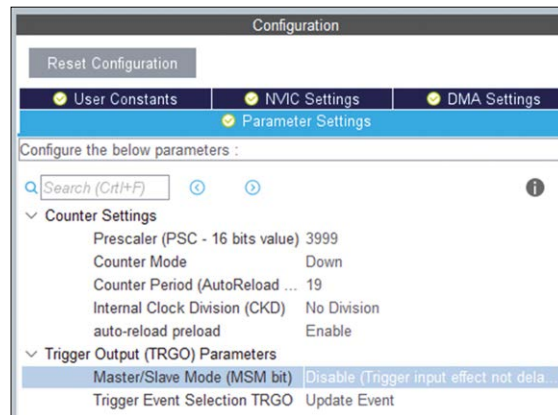

Figure 9.15: Parameter settings.
- In **Parameter Settings** select for 1ms interrupts. i.e. set the **Prescaler** to **3999**, **Counter Mode** to **Down**, **Counter Period** to **19**, and **Trigger Event Selection TRGO** to **Update Event** (Figure 9.15).